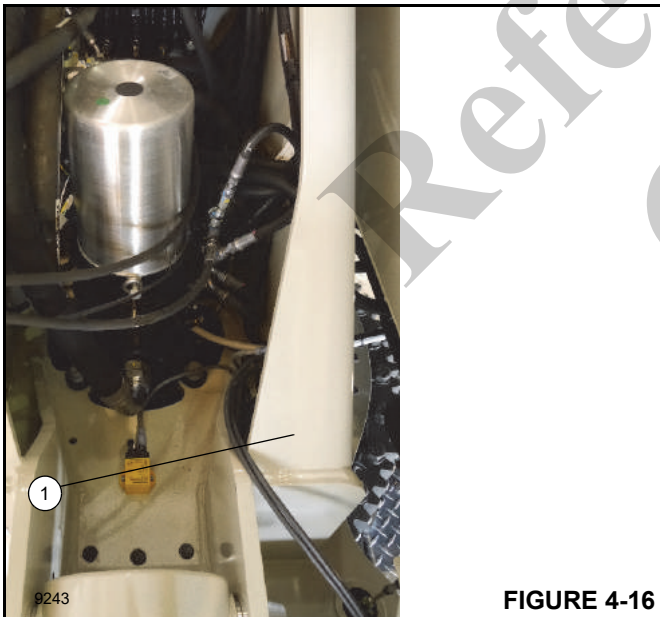

FIGURE 4-16
3. A 3-axis inclinometer is located in the crane turret (See Figure 4-16).
4. Slew position sensor located internal to the electrical slip ring (See Figure 4-16).